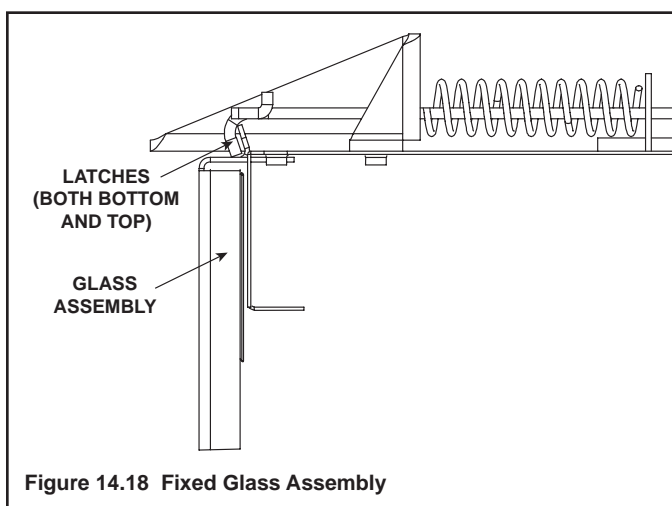

Figure 14.18 Fixed Glass Assembly
- Pull the four glass assembly latches out of the groove on the glass frame. Remove glass door from the appliance (see Figure 14.18).